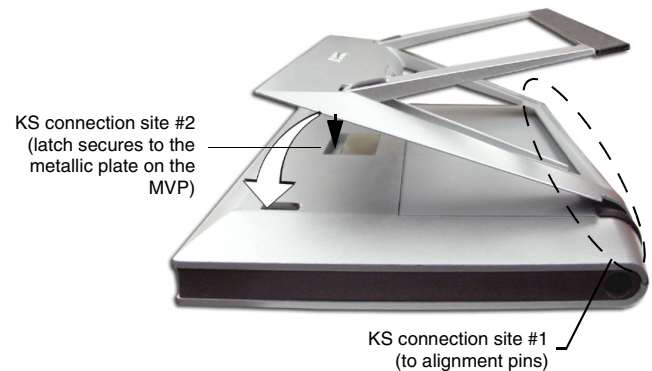

FIG. 4 Installing an MVP-KS onto the back of an MVP panel
5. Maintain a kickstand connection to the bottom of the MVP panel (FIG. 4).
6. Use downward pressure on the MVP-KS' AMX logo to insert the retractable latch into the opening just above the MVP metallic plate (FIG. 4).